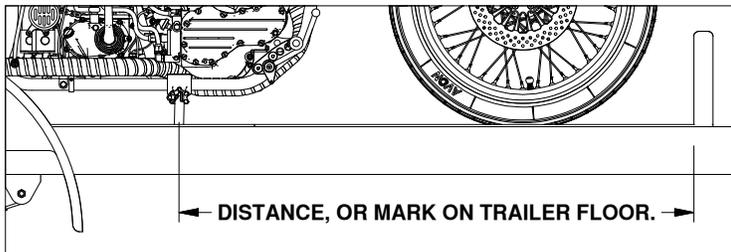

Figure B1: View looking at side of bike and trailer.
2. **Find base installation location.** With the clamping bar installed, position the bike on the trailer as it will be hauled. The bike must be in line with the direction of travel, and the floor must be free from obstructions in the area of the clamping bar. Note the location of the clamping bar relative to the floor by marking the floor or measuring to a reference point on the trailer, see figure B1.